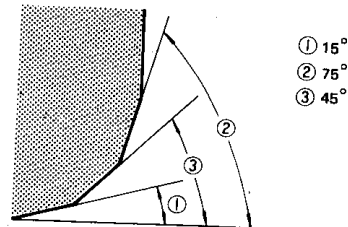

Fig. 3-68 Valve seat angles for exhaust valve seat
1) EXHAUST VALVE SEAT: Use a special valve seat cutter to make three cuts in the order illustrated in Fig. 3-68. Three cutters must be used; the first for making the 15° angle, the second for making the 75° angle and the last for making the 45° seat angle. The third cut ③ must be made to produce the desired seat width  $W$ .